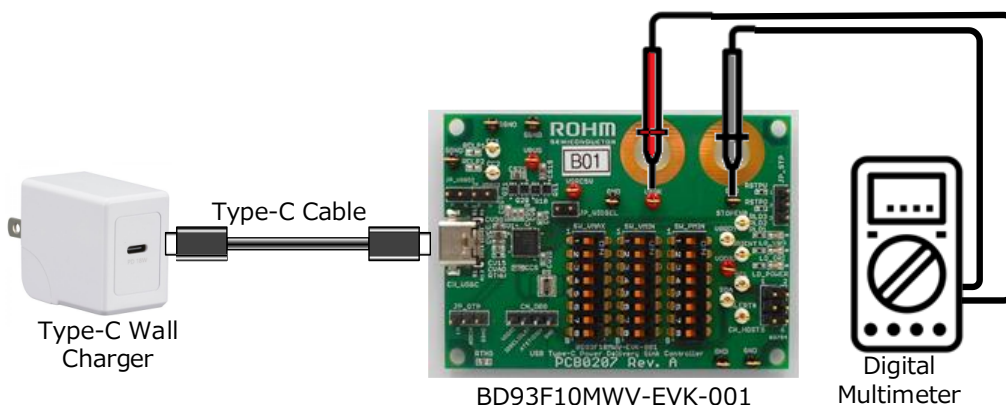

Figure 4. An evaluation for only EVK with Type-C cable
3. Confirm the contracted voltage from VSNK using a digital multimeter shown in Figure 4.